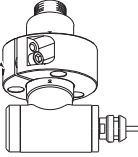

Fig. 9
- When installing the Spindle, it is recommended to use a "GR-30 Grip Ring (sold separately (Fig. 9))". If the GR-30 Grip Ring cannot be used due to the restriction of dimension and space, install as shown in ② below.